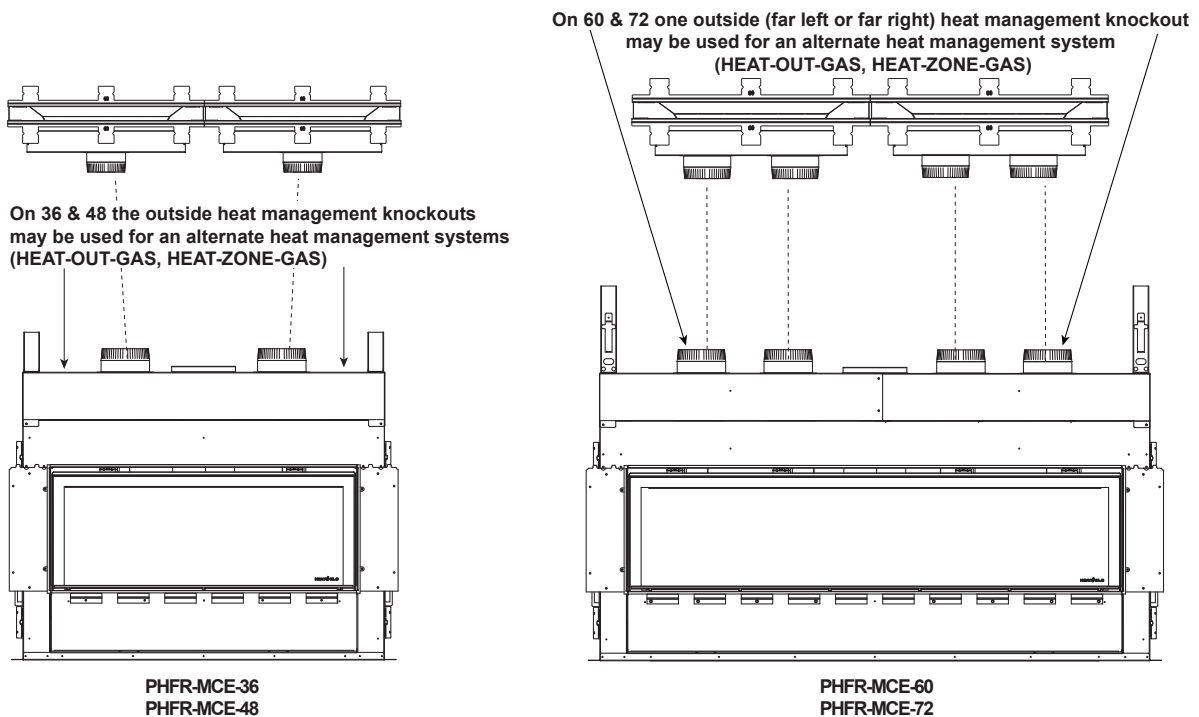

Figure 5.10 Ducted Passive Heat Front Discharge Configuration
9. Install collars over the openings using hurricane screws provided in the kit. PHFR-MCE-36 and PHFR-MCE-48 kits must be installed on the two inside passive heat knockouts. Outer knockouts may be used for alternate heat management systems. See Figure 5.10 and 5.11.